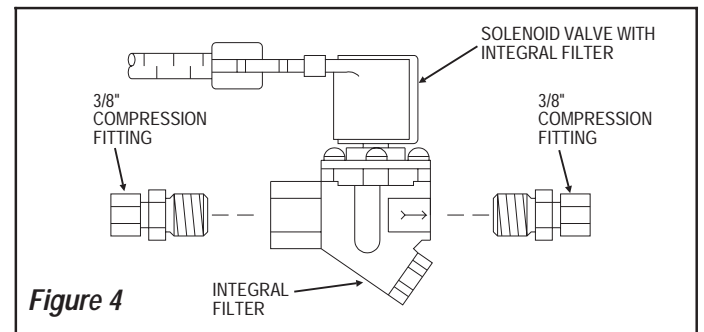

Figure 4
Step 3 — Install Solenoid Valve (Figures 4 and 5)
Important: DO NOT install solenoid valve so that the solenoid coil is facing down. The solenoid valve may be oriented so that the solenoid coil faces sideways (vertically); however, optimum performance is obtained when solenoid valve is in the horizontal position with the solenoid coil facing up as shown in Figure 4.